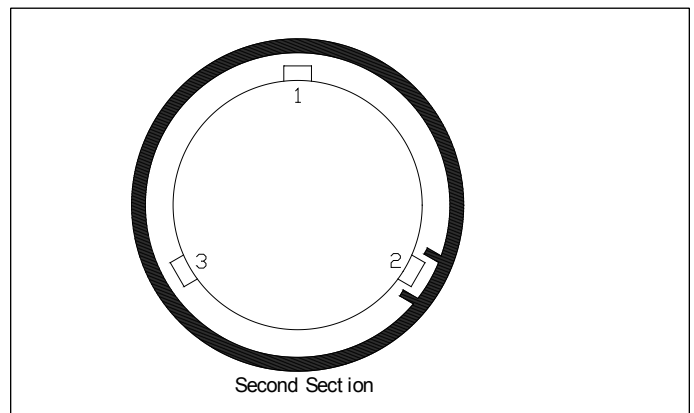

figure 2
- c. Place the second section on the core with the drive pins on each side of tube 2. Be sure the drive pins face down. (Figure 2)